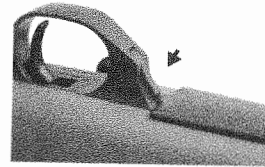

Fig. 4, Floorplate catch
Step 3. Open the magazine floorplate by depressing the floorplate catch (see Fig. 4) (or remove any detachable magazine).